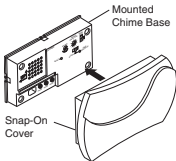

Figure 5
10. Place chime cover securely over base (see Figure 5).
8. Place chime cover securely over base (see Figure 5).
Snap-On Cover: Apply pressure to the cover until it snaps into place (see Figure 5). To remove, firmly grasp cover and pull to remove from base.